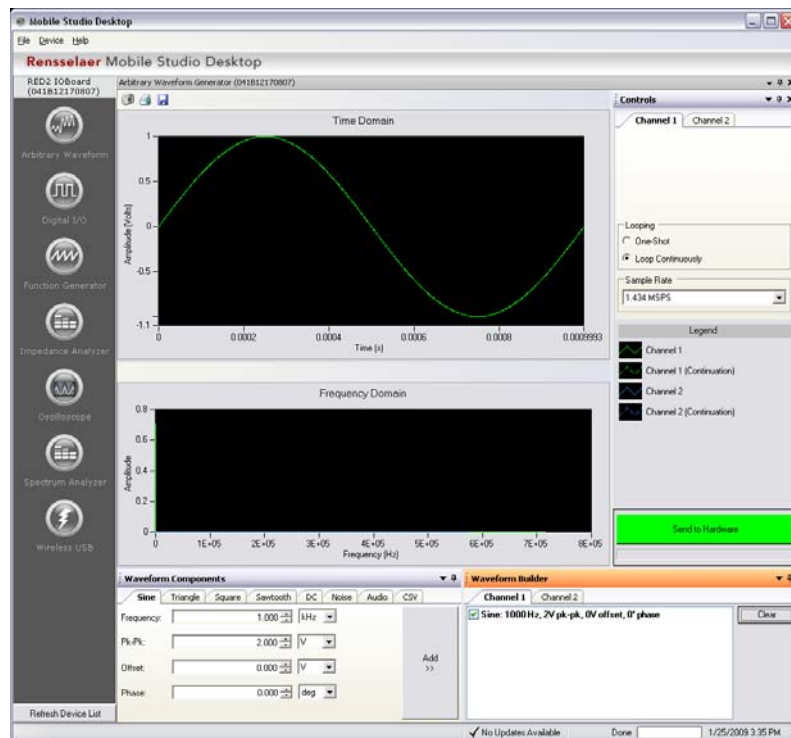

Figure 3.1: Arbitrary Waveform Generator Display
- 4) When the signal is added to the *Waveform Builder* it displays in the *Time Domain* and *Frequency Domain* windows, shown in Figure 3.1 below.